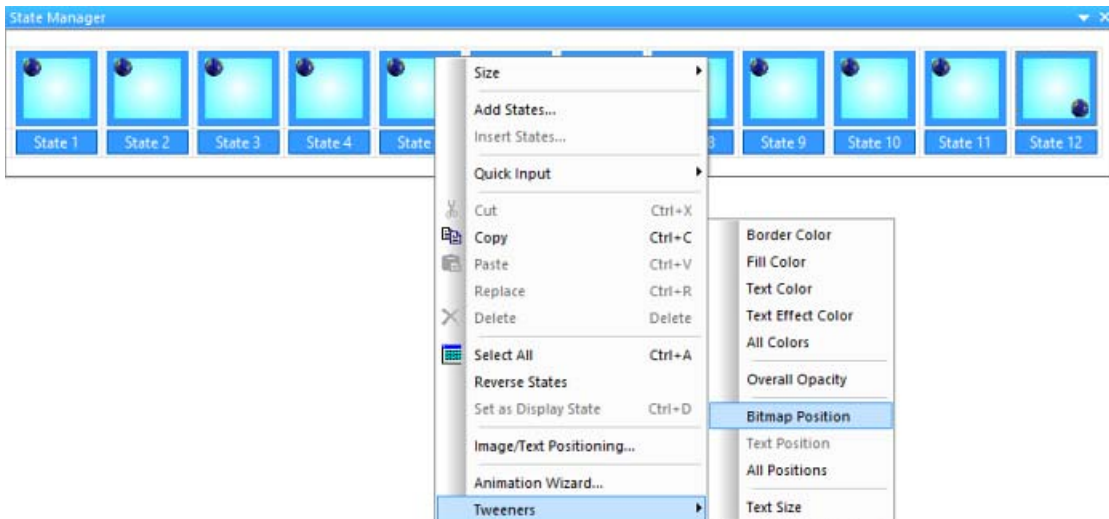

FIG. 327 State Manager context menu - Bitmap Position
13. Select all states in the State Manager, and right-click to open the State Manager context menu, and select **Bitmap Position** (FIG. 327):